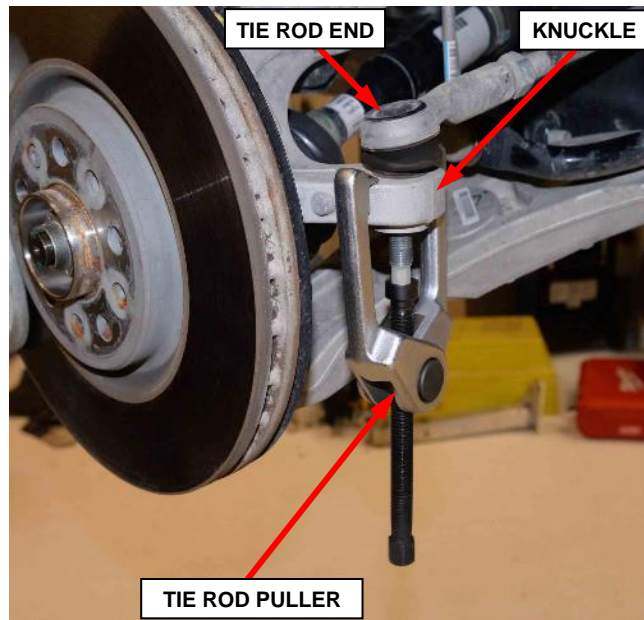

Figure 26 – Tie Rod Puller C-3894-A
31. Using tie rod puller C-3894-A, separate the outer tie rod end from the steering knuckle (Figure 26).